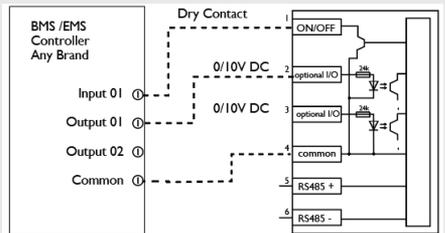

FIGURE 5
- BMS Cleaning Cycle Command (Optional I/O Pin 2)**, See Figure 5. When On, the unit will perform a cleaning cycle (should be normally Off and momentarily On). The control point accepts a binary command.